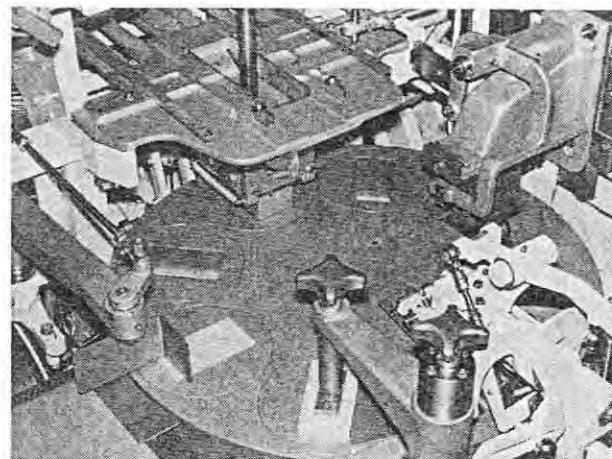

Fig. 8
1. Rectangular format (Figure 8)